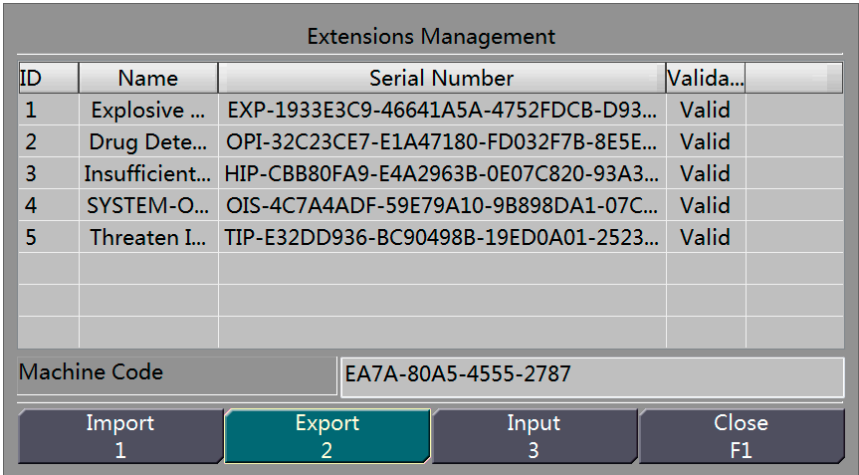

Figure 18-26 Extensions Management Interface
Step 1 Choose System Settings > Extensions Management to display an interface, as shown in Figure 18-26. The following extensions can be managed: automatic explosive detection, automatic drug detection, automatic currency detection, and impenetrable detection.